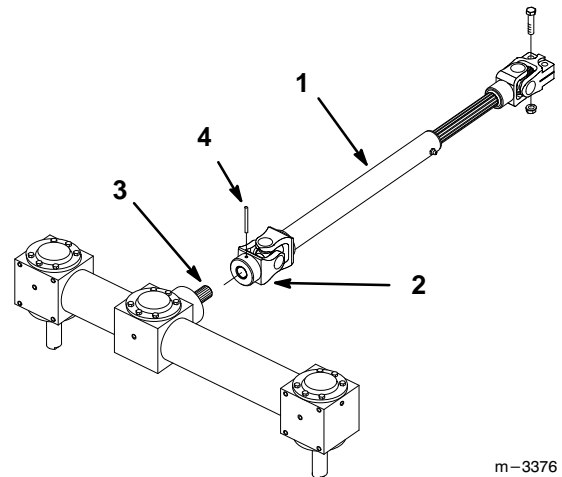

Figure 5
11. Drive roll pin through hole in universal joint to remove PTO drive shaft from gearbox shaft (Fig. 5).